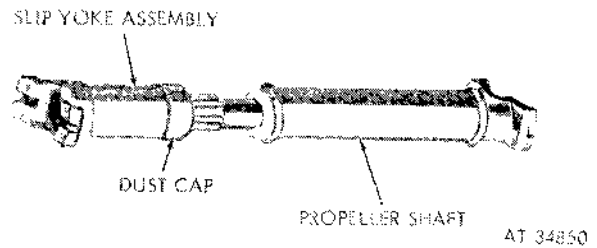

Figure 2-171. Propeller shaft assembly.
(3) With the propeller shaft assembly (fig. 2-171) still secured in the vise, remove the dust cap from the yoke, and slip the cap onto the propeller shaft splines.
(4) Remove the slip yoke from the propeller shaft splined end (fig. 2-171).
(5) Slide dust cap off propeller shaft, and remove three washers.
(1) Secure the propeller shaft in a suitable vise.
(2) Slide the dust cap (with washers positioned under cap) onto the splined end of the propeller shaft (fig. 2-171).
(3) Position the slip yoke onto the propeller shaft splined end, and screw the dust cap assembly into place on the slip yoke (fig. 2-171).